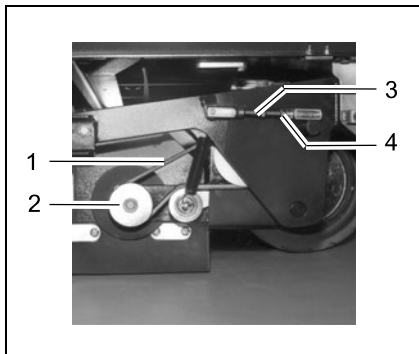

Fig. 38
5. Loosen the counter nuts (Fig. 38/3) on both sides of the vehicle.
6. Turn the adjusting device (Fig. 38/4) on both sides of the vehicle as described below:
9. Tighten the counternuts (Fig. 38/3) on both sides of the vehicle.